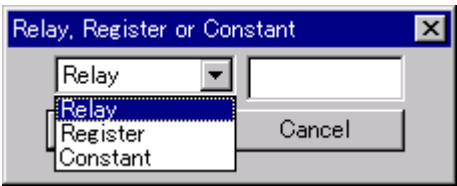

Fig. 21-1 [Relay, Register or Constant] Dialog Box
1. Select [Tools] – [Instruction Use Table]. The dialog box shown in Fig. 21-1 appears.